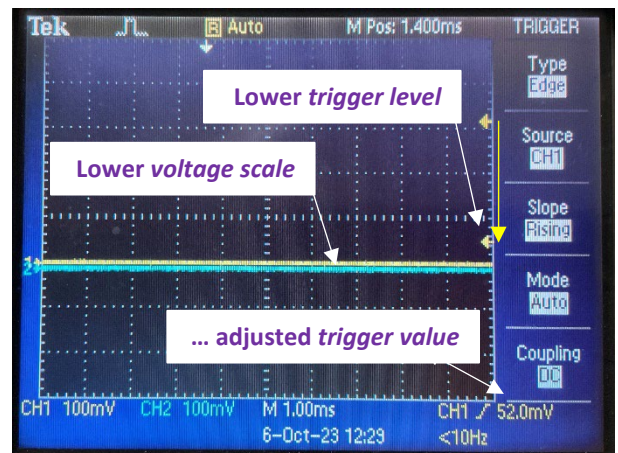

Figure 4
- 7) Adjust **CH1** & **CH2** voltage scales of the oscilloscope output display (Fig. 4) by dialling *Position-knobs*
- 8) And lower the *trigger level* to **just above blue-yellow lines** (Fig. 4)